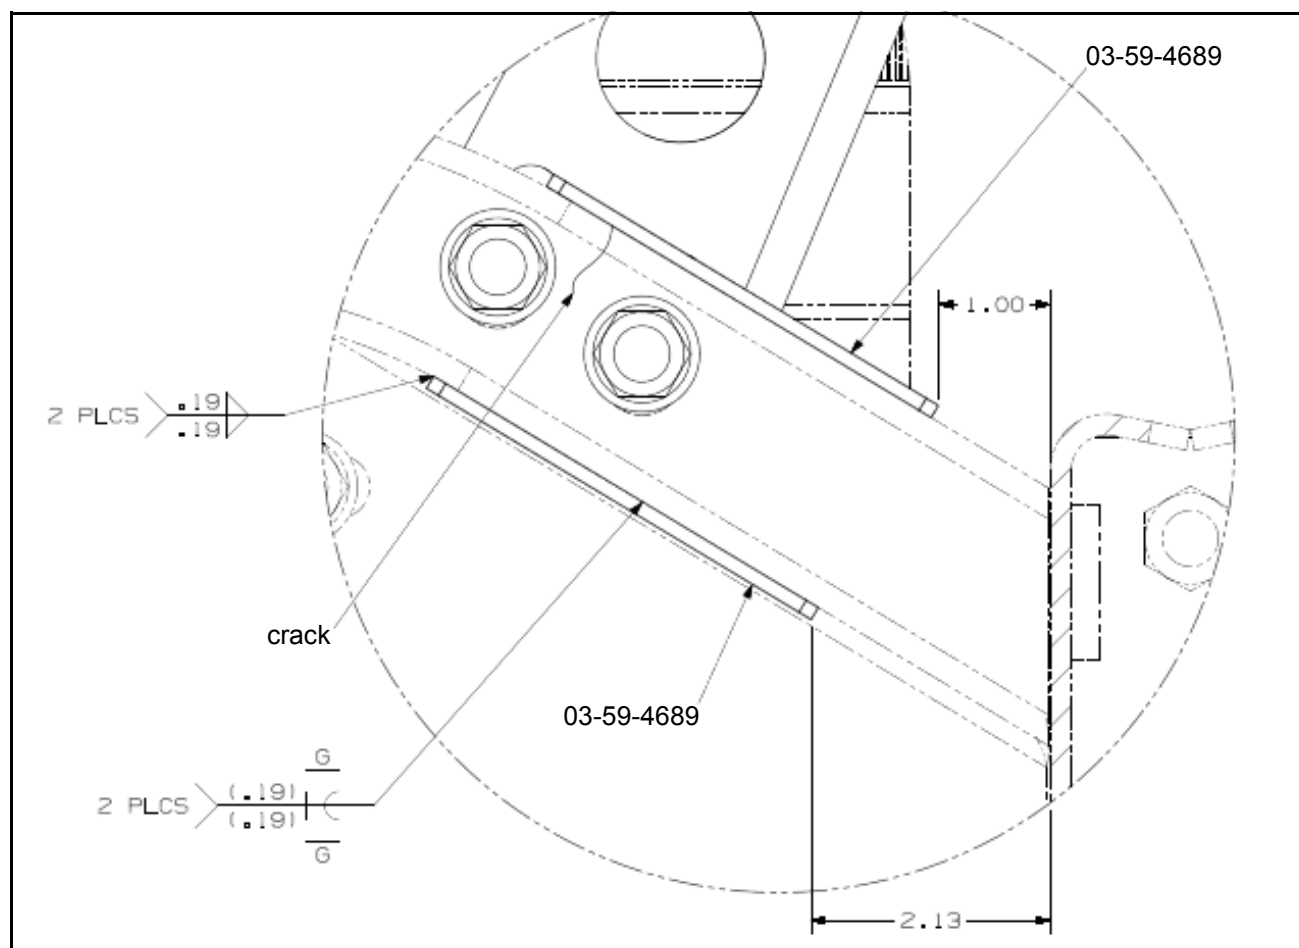

Figure 15. Weld information for support plates.
30. Orient and weld the support plates, p/n 03-59-4689, as shown in Figure 15.